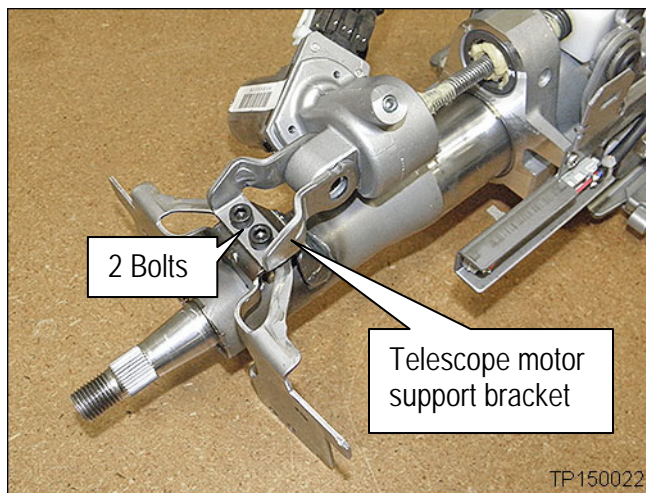

Figure 5
- a. Remove 2 bolts shown in Figure 5.